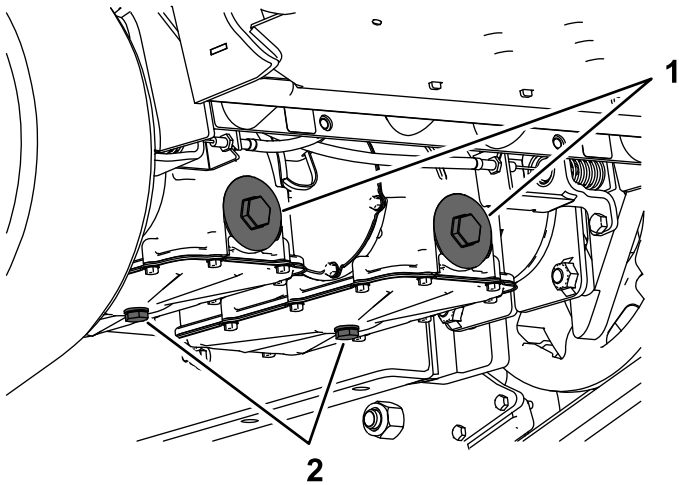

**Figure 46**
4. Remove the 6 bolts (2 rear, 4 side) from the skid plate and remove the skid plate (Figure 46).
- 15. Install the skid plate (Figure 46).